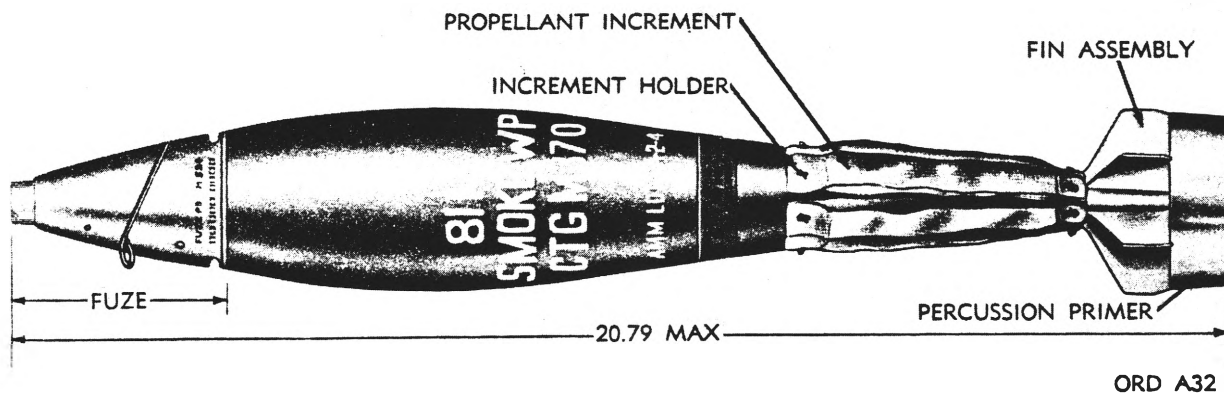

Figure 11. Cartridge, 81 millimeter: smoke, WP, M370 (T30E9), w/fuze PD, M524.
*a. General.* This cartridge (fig. 11) is a lightweight cartridge intended for producing a smoke screen. The cartridge consists of a thin-walled projectile containing a white phosphorous smoke filler, a point fuze, fin assembly M141, propellant increment charges M5, ignition cartridge M66, and percussion primer M71. The projectile does not have gas check bourrelet grooves. The nose of the projectile is provided with an adapter and the base is provided with a base adapter. The adapter and base adapter serve as seals for the smoke filler. The adapter also serves as a seat for the burster assembly. Burster assembly M47 consists of burster charge and burster casing. It is a thin-walled aluminum or steel tube filled with a small charge of RDX. The burster charge is held in the burster casing which is press-fitted into the steel adapter of the projectile and extends longitudinally through the smoke filler approximately three-fourths of the length of the projectile cavity. The burster charge ruptures the projectile body and disperses the smoke filler upon functioning of the fuze. The fin assembly (cartridge housing, fin, and front and rear increment holders), ignition cartridge, eight propellant increment charges, and percussion primer are identical with those used in the HE 81-mm cartridge M362, as described in paragraph 21.